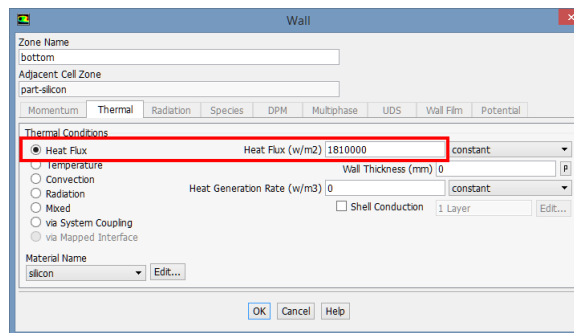

Figure 45: Setting heat flux value at the bottom of the microchannel.
- (1) Select first *bottom* from the *Zone* selection list, for the *Type* select *wall* and click *Edit*. In the *Wall* dialog box, since it is a solid wall, only the *Thermal* tab will be active. In the *Thermal Conditions* list select *Heat Flux*, and set its value, as in [1], to 1818000 ( $1.81 \times 10^6$ ) W/m2, as shown in figure 45.